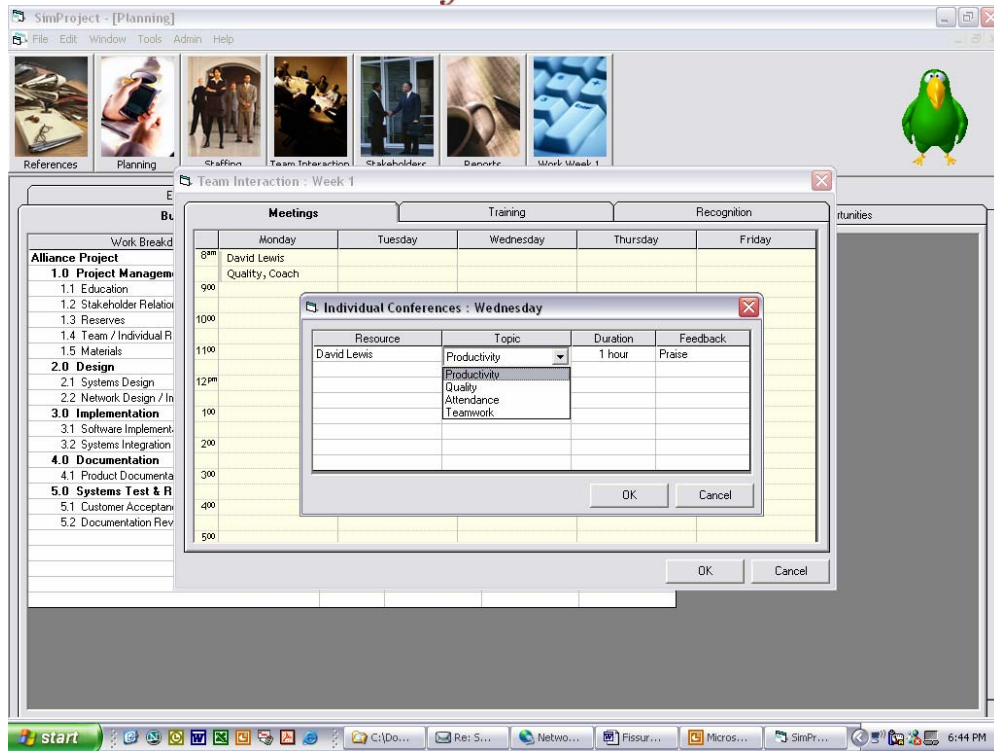

Figure 10 - Individual Conferences Decisions by Staff, Topic, Duration and Feedback
- Individual Conferences – select the individual, the day, the duration, and the topic(s) (Figure 10)